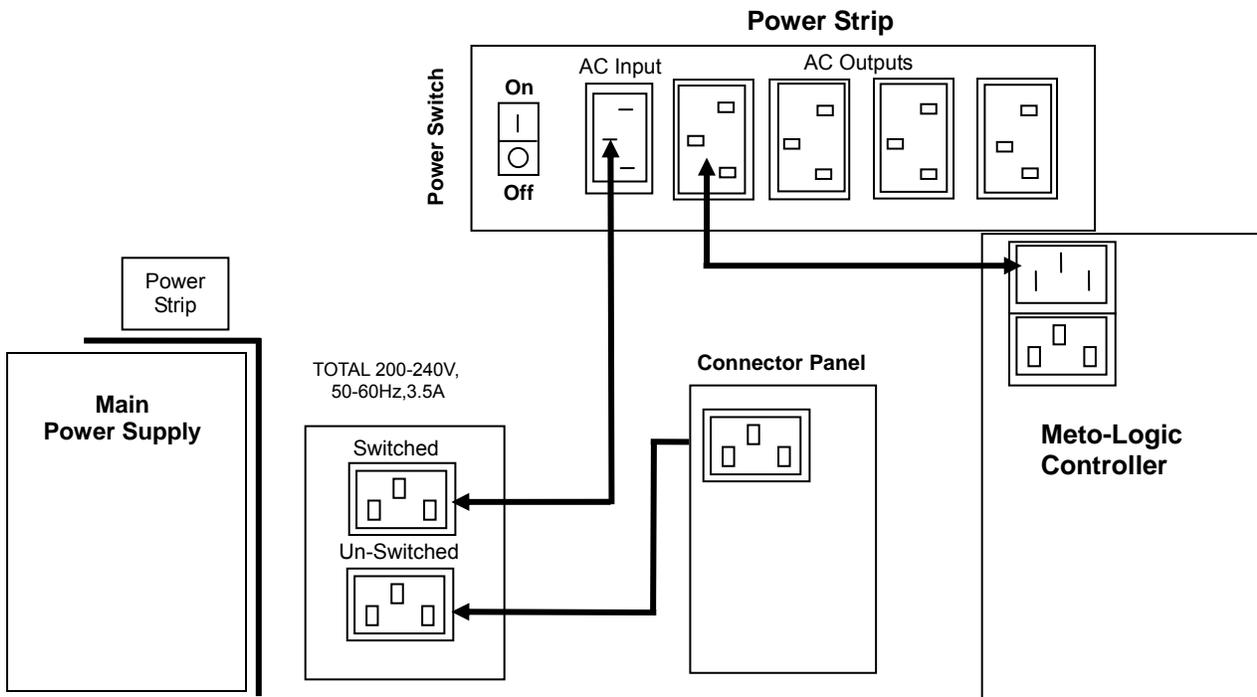

Figure 5-17
2. Locate power strip above main power supply cabinet (see Figure 5-17).
5. Attach the AC power cord supplied from the AC output receptacle of the power strip (Figure 5-17) to the input AC receptacle of the Meto-Logic controller.
6. Attach the AC power cord supplied from the AC input receptacle of the power strip to the Switched AC receptacle of the Printer as shown in Figure 5-17.